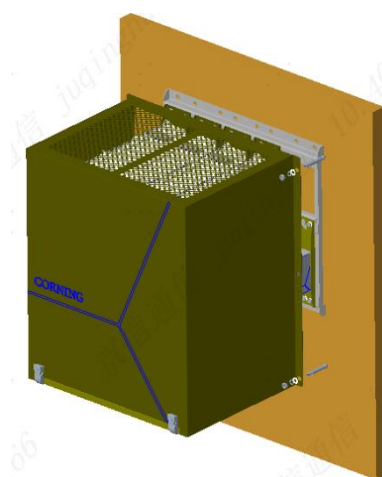

Figure 79. Wall mounted installation
Step 6: Fix the cover to the wall with four M10*110 expansion bolts as shown in Figure 79.